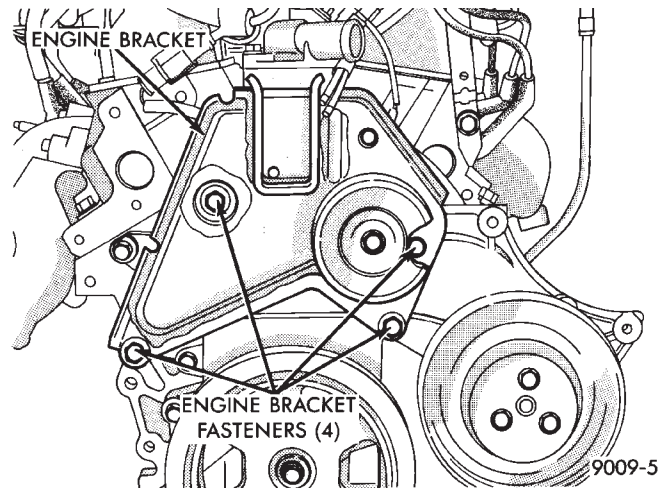

Fig. 2 Engine Bracket
- (11) Remove idler pulley from engine bracket.
- (12) Remove engine bracket (Fig. 2).